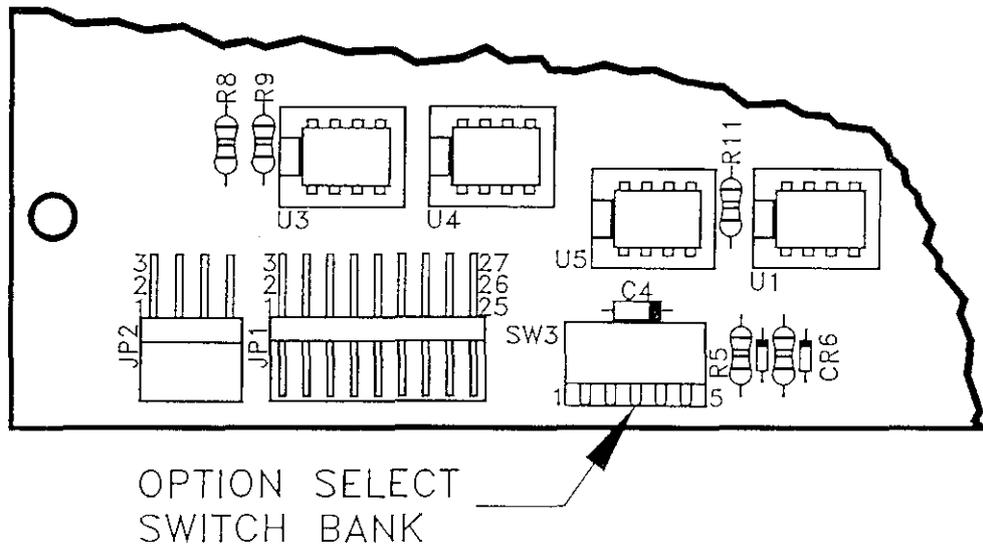

Figure 1 Option Select Switch Bank
1.16 The installer shall mount the jackbox in a suitable location (usually under the console writing surface). To connect this jackbox (see drawing 830652-00205 Fig. 1) to a telephone panel used with a radio system, use the 6-wire modular to modular cord furnished, and plug this cord into the rear panel JACKBOX modular jack.
1.27 **DESK-TOP ONLY:** The auxiliary port, AUX (PTT) is located at the rear panel, which allows for headset and push-to-talk operations. This port is optioned-controlled by a five-position switch bank (SW3), (only switch positions 1-4 are used), located on the Orator board inside the console. AUX (PTT) port options are accessed by removing the left-end cap of the console. Options are selected by switch positions 1-4 of SW3. Refer to Figure 1 and Table B.